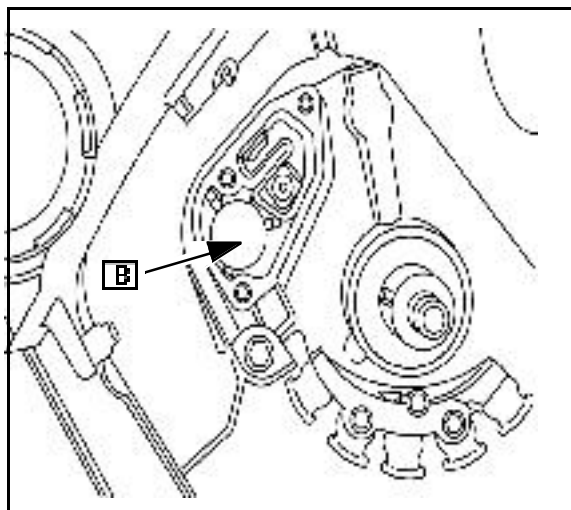

Fig. 25
4. Install disc valve on seat ([B] Fig. 25).